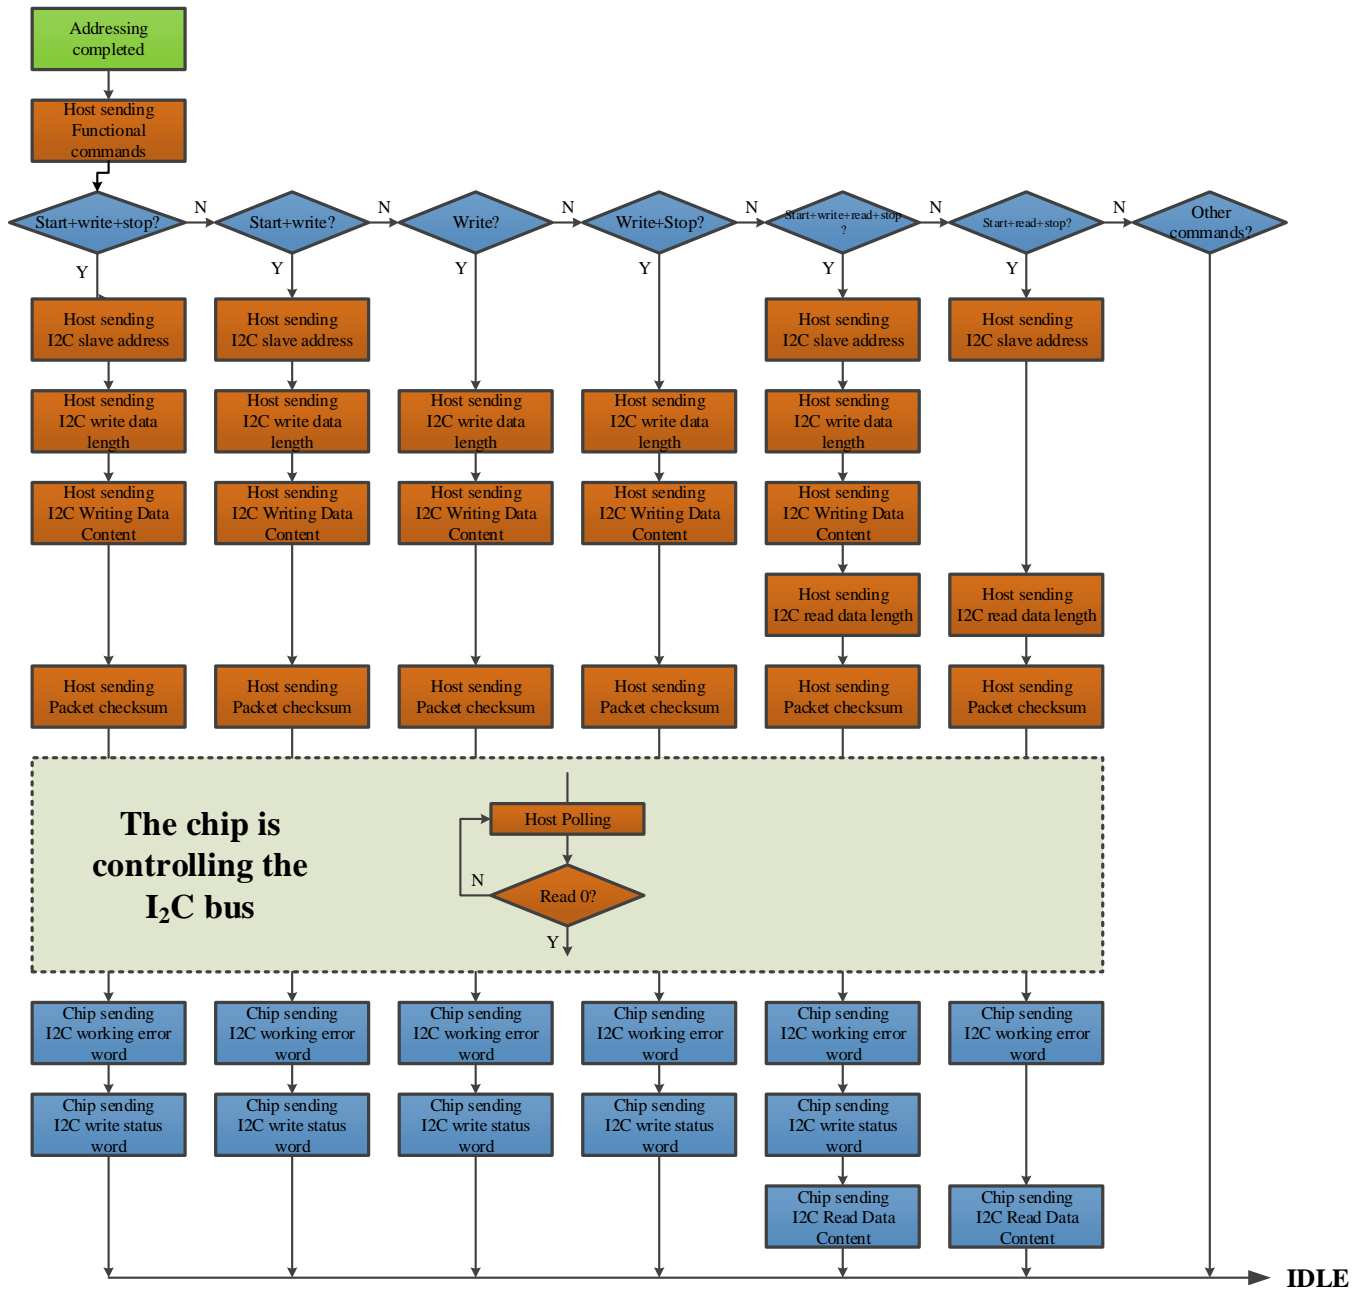
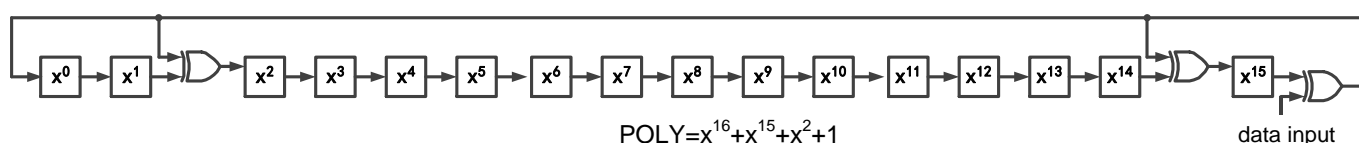

Figure 9 - Function Commands Flow
Figure 10 CRC-16 Generator
The addressed GX28E17 can receive and execute subsequent functional commands. GX28E17 supports six types of I²C control commands, as depicted in Figure 9. These commands, along with corresponding additional parameters (I²C slave address, write data length, write data content, read data length, and checksum), together form a 1-Wire data packet. The write/read data length indicates the number of bytes for data write or read, and can be set from 1 to 255. If the length is set to 0, it will cause the Error Detection (ED) pin to be set, and GX28E17 will enter an idle state. The 16-bit checksum serves as the cyclic redundancy check (CRC) of the 1-Wire data packet (excluding the checksum itself) with a generating polynomial of $x^{16} + x^{15} + x^2 + 1$. Unlike the CRC-8 in the ROM ID, the CRC-16 uses the complement of the verification result. GX28E17 integrates a CRC-16 generator as shown in Figure 10, which performs CRC-16 calculation simultaneously upon receiving the data packet. If the calculated result does not match the received checksum, it will cause the Error Detection (ED) pin to be set, and GX28E17 will enter an idle state.